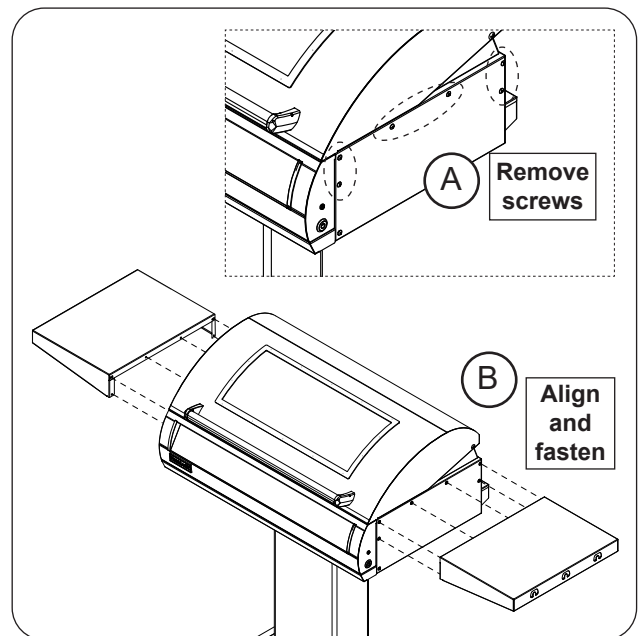

Fig. 36-2 Install rigid shelves
1. Locate and remove the Phillips-head screws shown in Fig. 36-2, A.
3. Insert the six screws and hand-tighten slightly (see Fig. 36-2, B).